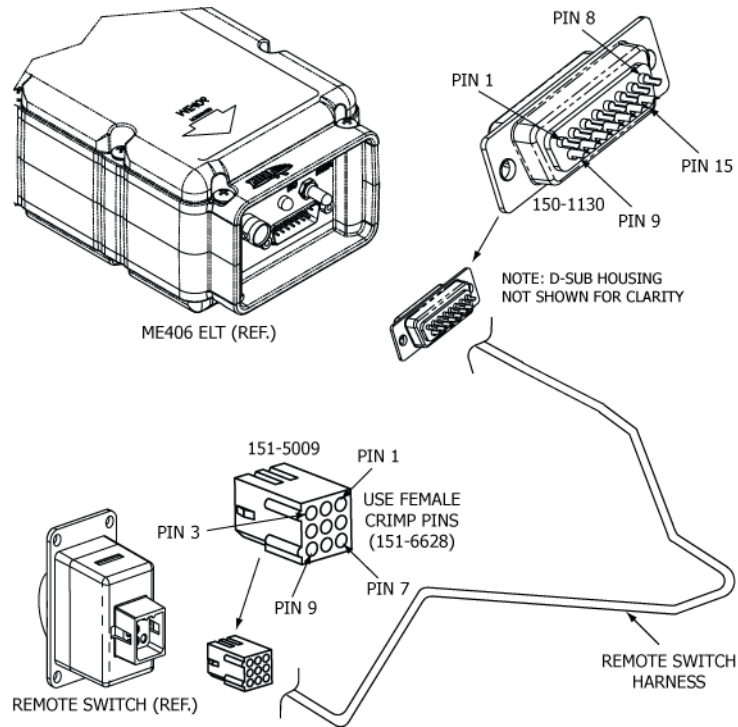

Figure 23 Remote Switch Harness Arrangement
- 1) See Figure 23 Remote Switch Harness Arrangement.